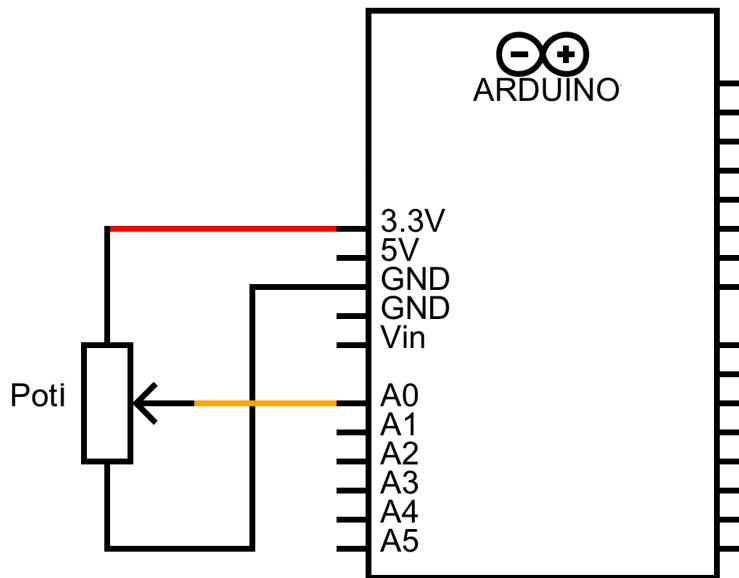

Figure 4.5: Potentiometer and Arduino circuit to set the position of a servo motor.
2. Assemble the the circuit in figure 4.5. Check the featherboard pinouts on the desks to find the correct pins. On your tables you will find a bunch of cables and a rotary potentiometer, which you will need for this part of the lab. You can set the resistance of the potentiometer anywhere between 0 and the maximum resistance by turning its knob. Make absolutely sure that you plug it into the 3.3 V and not into the 5 V pin or you will break the featherboard.